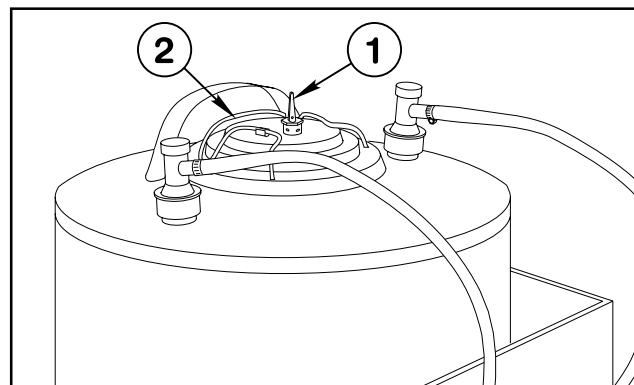

Figure 1
2. Flip the Pressure Relief Valve to the upright position. (Fig. 1)